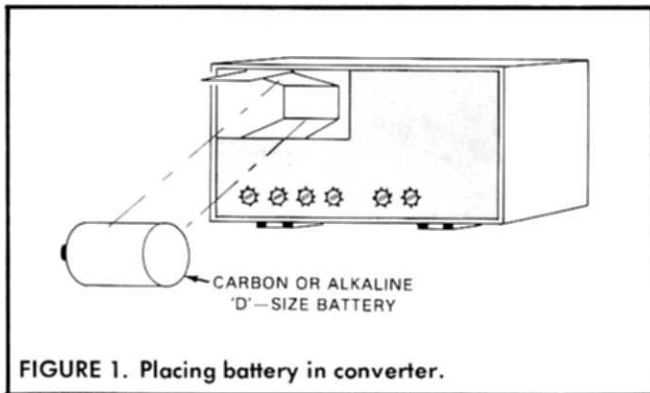

FIGURE 1. Placing battery in converter.
1. Place the battery in the battery holder, as shown in Figure 1. For the moment, leave the switch on the front panel OFF.
The battery must be placed with its smaller (designated '+', or 'positive') terminal to the left (see Figure 1). If the battery is reversed, the converter will not operate.